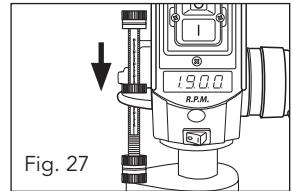

Fig. 27
2. While holding the feed handle in position, turn the second depth stop screw (26) as far down as it will go. Return the chuck to its upright position and take note of where the depth stop screw sits on the scale (Fig. 27).